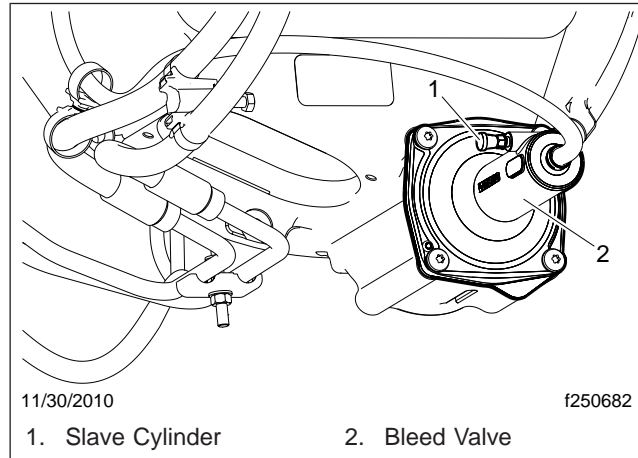

Fig. 4, Slave Cylinder Bleed Valve
5. Continue to monitor the SAM Cab ECU while having an assistant open the bleed valve on the slave cylinder (see Fig. 4), allowing the pedal to travel all the way to the floor. Have the assistant close the valve. Does the actuation of the pedal switch register on the "Bottom of Clutch Circuit" indicator? If necessary, top off fluid with DOT 4 brake fluid.